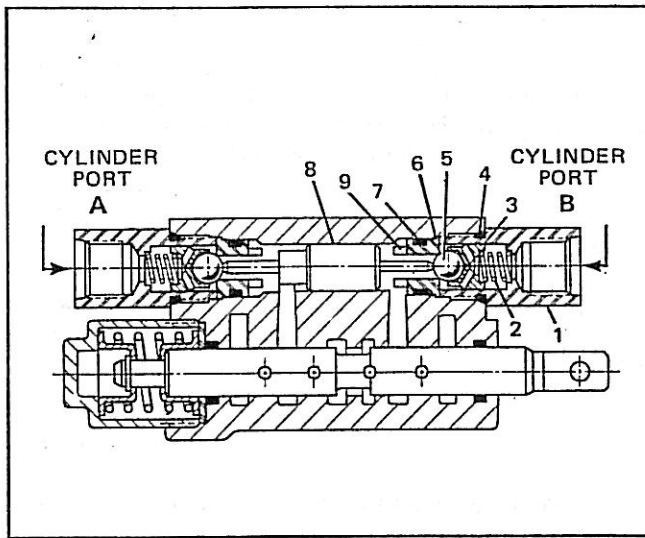

Figure 8. Pilot Operated Check Valve
5. PILOT OPERATED CHECK VALVE. (See Figure 8) To remove unscrew caps at both ends of body. Take out springs, balls, and ball guides. Using a 1/4 wood dowel push shuttle (8) and seats (6) out of the body. Identify parts so they are returned to the same spot when reused.